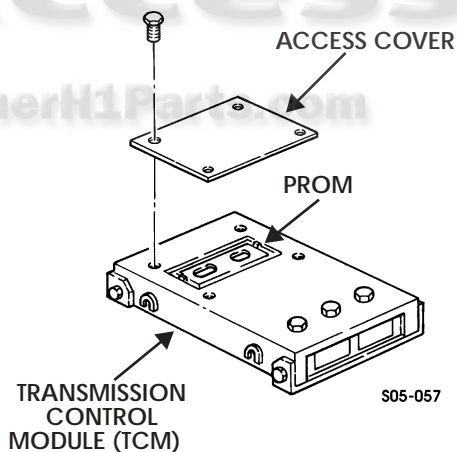

Figure 5-100: CM Access Cover
2. Remove four screws and access cover from TCM (Figure 5-100).
4. Install access cover on TCM with four screws (Figure 5-100).